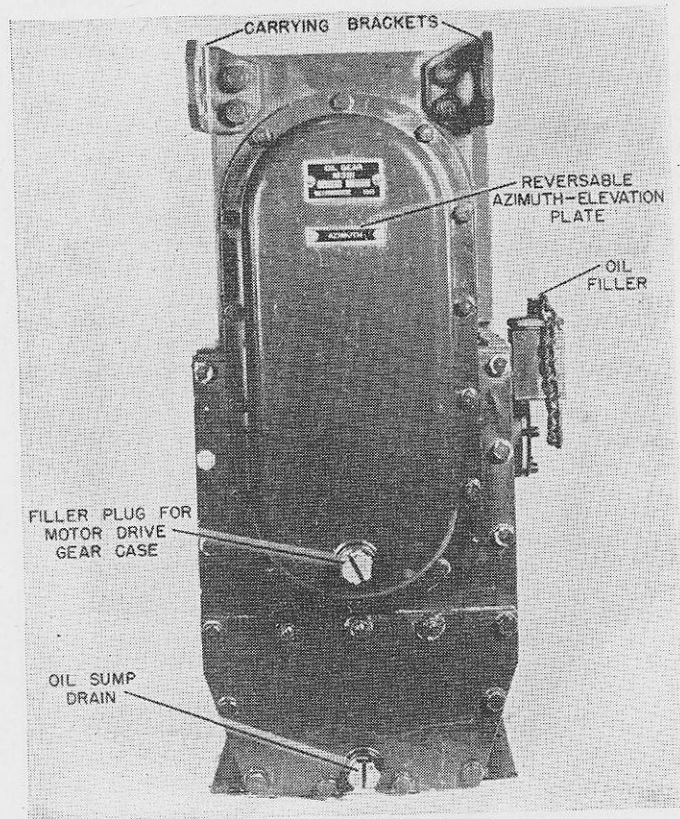

FIGURE 34.—Oil gear unit M3B1—front view.
a. *Lubrication.*—(1) *Hydraulic transmission.*—Lubrication of the hydraulic portion of the oil gear is unnecessary if the sump case is kept filled with clean Univis 48 oil or equivalent (fig. 34).